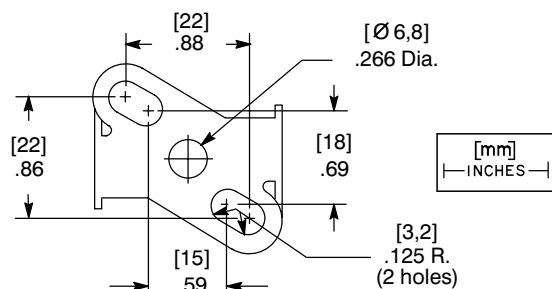

Figure 1. Mounting dimension of optional mounting bracket.
For mounting bracket (optional feature) see Figure 1.
- Replace piston assembly, refer to Figure 1. A flexible plastic sheet (Form No. V5661) is provided in the Rebuild Kit for installation of the piston assembly. Wrap piston assembly with plastic sheet; be sure one edge of the sheet is even with the top of the piston assembly. Then compress piston ring with plastic sheet and slide piston assembly into cavity.